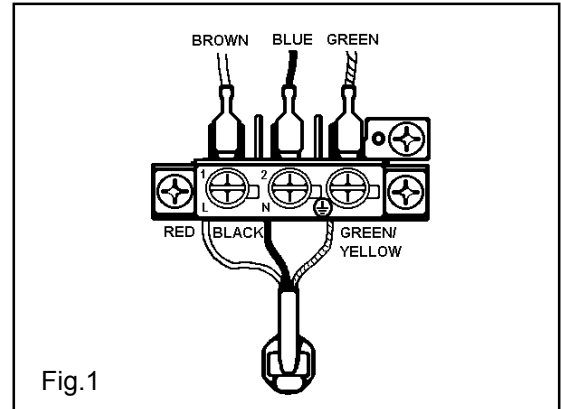

Fig.1
- **Do not** remove the screws from the earth tab extending from the oven mains terminal block (Fig. 1).